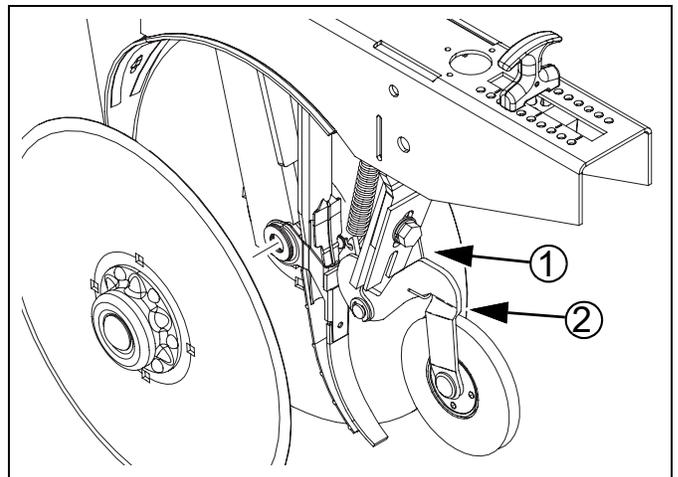

Figure 26
**Refer to Figure 26 (shown with an opener disc removed for clarity - this task can be performed with discs mounted)**